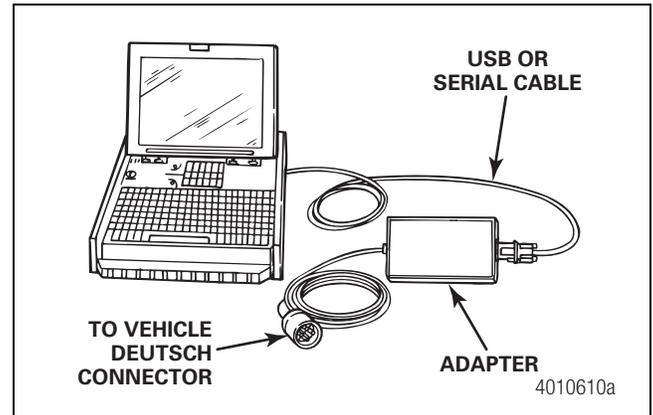

Figure 3.1
- Attach the Deutsch diagnostic cable from the adapter to the vehicle. Figure 3.1.